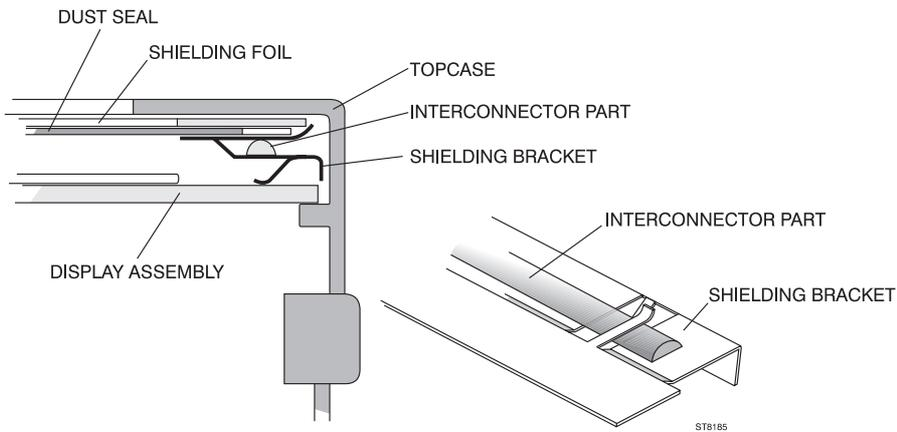

Figure 6-4. Mounting the display shielding bracket
*Figure 6-4 shows how the shielding bracket (with conductive foam strip), the shielding foil, the dust seal, and the display assembly (see step 7) are clamped in the top cover edge.*